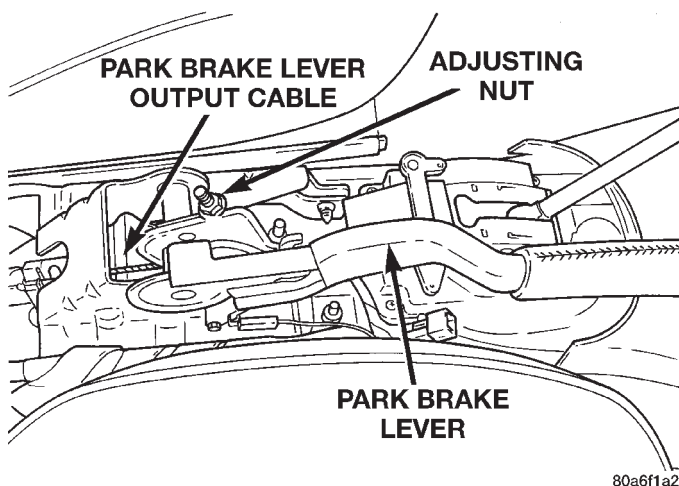

Fig. 142 Park Brake Lever Output Cable AdjustmentNut
(5) Raise park brake hand lever to the mid-position of its travel. This will allow for the required clearance to remove center console.
(6) Remove center console/arm rest from vehicle.
(7) Lower park brake lever handle.
(8) Loosen adjusting nut (Fig. 142) on park brake cable output cable. This will take tension off park brake cables, allowing rear park brake cables to be easily removed from tension equalizer.